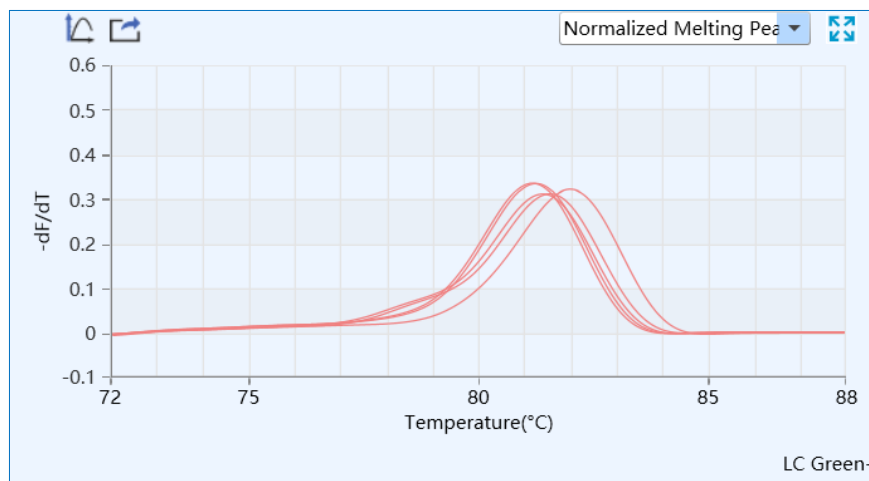

Figure D-14.4. HRM Analysis Interface - Normalized Peak Melting Functional Module
- IV. **Normalized Melting Peak:** display the first negative derivative of the normalized melting curve, as shown in figure D-14.4. The melting temperature range of each sample appears as a peak after normalization, and optionally, temperature shift.